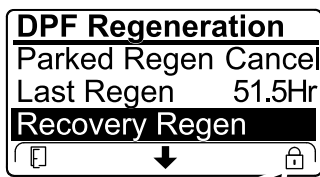

Figure 49
- If the engine computer has not requested a recovery regeneration and you scroll down to the RECOVERY REGEN option, the recovery regeneration locks and the lock icon (Figure 49) appears in the lower right corner of the InfoCenter.